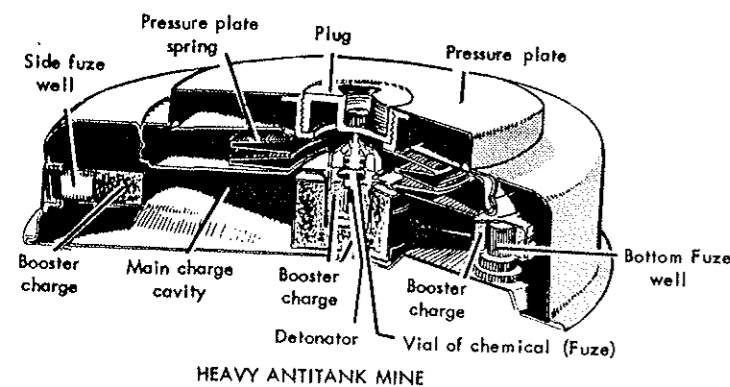

Figure 32.
The use of mines, booby traps, and demolitions (figs. 32 through 48) has long been an important feature of land warfare for safeguarding defensive positions, channelizing hostile attacks, and demoralizing and destroying enemy troops. They differ from other weapons, such as guns, tanks, mortars, and machine guns, in that they are deliberately placed at selected spots where they can injure the enemy and are activated either by the enemy himself or by some timing or remote-control device.
1. Antitank mines (fig. 32) are designed to immobilize tracked or wheeled vehicles. They vary greatly in the amount of explosive they contain, the normal charge being from 4 to 22 pounds. The fuze is usually the pressure type, either percussion or chemical. Ordinarily, a pressure of 200 pounds or more is necessary to detonate them.
5. What are the component parts of the mine (figs. 32, 33, and 34)?
8. Is there a booster charge? Where is it located? What are the name, composition, and weight of the booster charge (fig. 32)?
13. Are there provisions for booby trapping, such as bottom or side wells or hooks? Where are they located and what fuzes are used (figs. 32 and 44)?